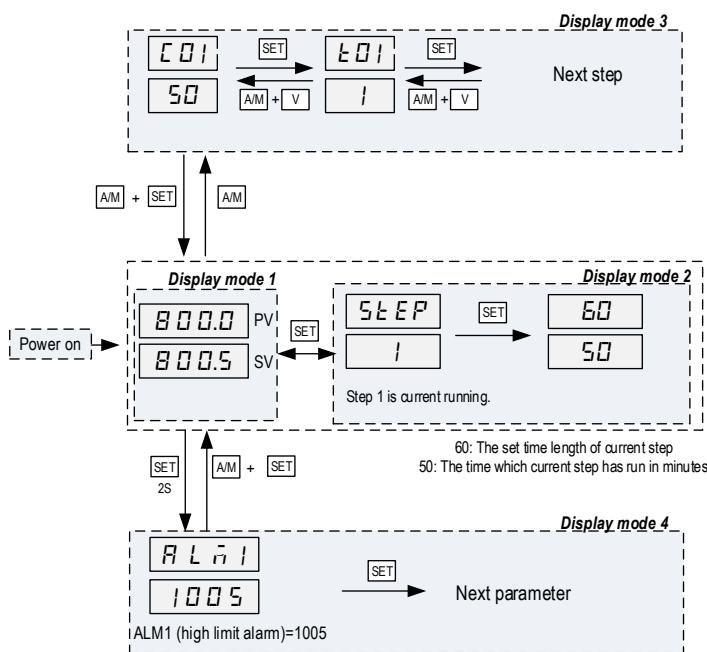

Figure 3. Display modes.
- ① PV window: Displays the sensor read out, or process value (PV).
- ② SV window: Displays the set value (SV) or output value (%).
- ③ AL1 indicator: It lights up when AL1 relay is on.
- ④ AL2 indicator: It lights up when AL2 relay is on.
- ⑤ A-M indicator: The light indicates the controller operating status. When A-M is solid on, program is running. When A-M is flashing, program is paused. When A-M is off, program is stopped.
- ⑥ Output indicator: It is synchronized with control output (terminal 7 and 8), and the power to the load. When it is on, the heater (or cooler) is powered.
- ⑦ SET key: In normal operating mode, keep pressing the SET key momentarily so the display will be switched between the temperature, step number and step timer. Press and hold the SET key for 2s so the controller will switch to the parameter setting mode. For details, see Figure 3 below.
- ⑧ A/M key: Programming key; digit shift key.
- ⑨ DOWN key ▼: Decreases numeric value of the setting value.
- ⑩ UP key ▲: Increases numeric value of the setting value.